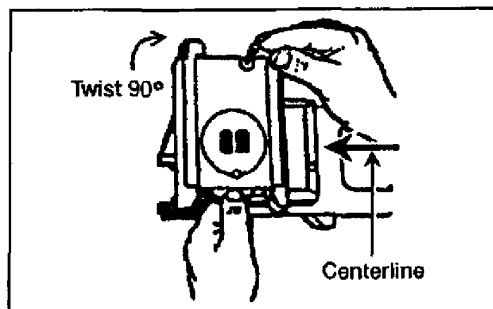

Figure 071-030-0001-25. Attachment of the receiver sear assembly
k. Attach the receiver sear assembly (figure 071-030-0001-25).